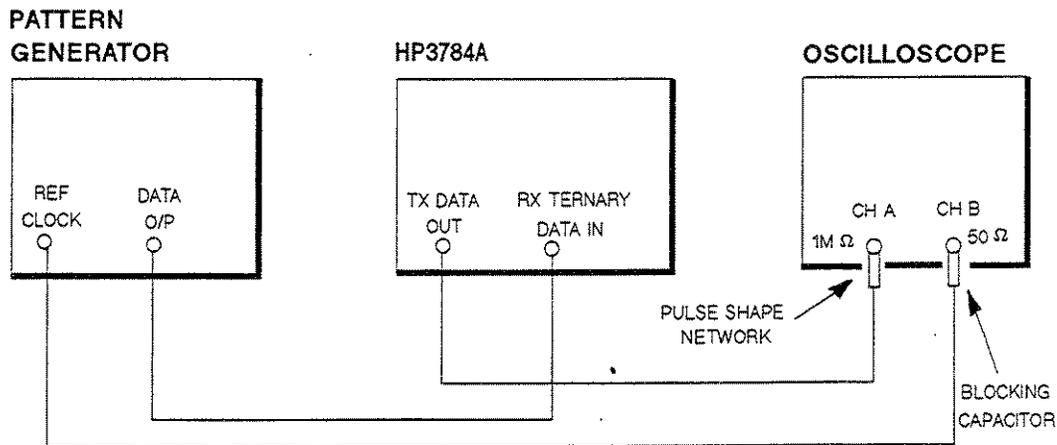

Figure 8-32 Thru-data Jitter Application
8. Now connect the equipment as shown in figure 8-32